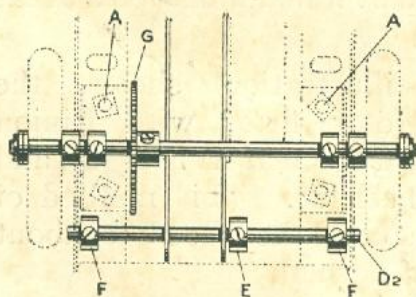

Fig. 1
2. Refit No. 74 Trunnions into position (A) shown in Fig. 1.